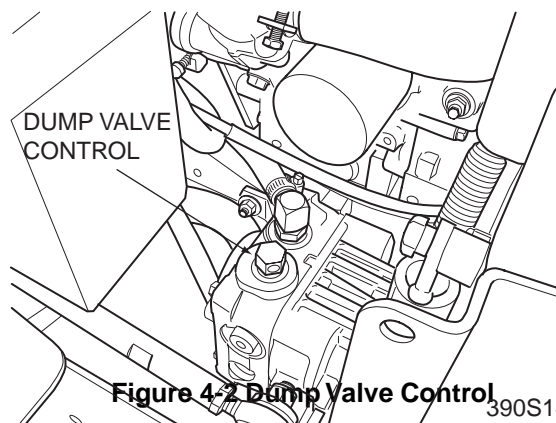

Figure 4-2 Dump Valve Control 390S141-1
13. **Dump Valve Control Levers (Figure 4-2).** Located on the hydraulic pumps, used to "free-wheel" the mower. Rotating the levers clockwise until they stop allows the unit to move under hydraulic power. The levers must be in this position during operation of the mower. Rotating the levers counter-clockwise allows the mower to be moved by hand (free-wheeling).
To “free-wheel” or move the mower around without the engine running, place the dump valve levers in the FREE-WHEEL position (Figure 4-2). Disengage the parking brake and move the mower by hand. The dump valve levers must be returned to the DRIVE position to drive the mower.